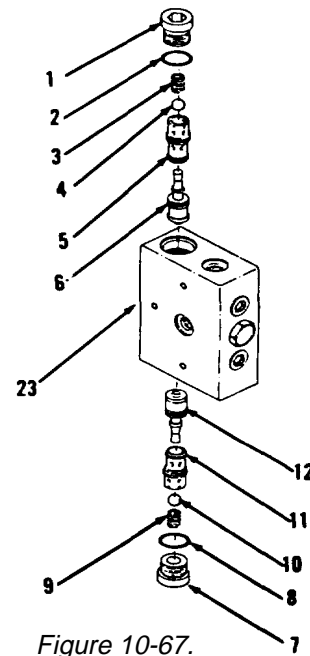
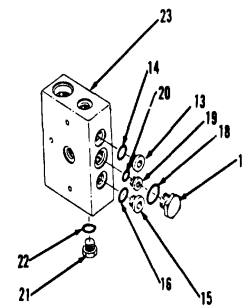

Figure 10-67.
Figure 10-68.
1. Loosen plug (1) carefully to relieve spring (3, Figure 10-67) tension. Remove plug (1), preformed packing (2), spring (3) and ball (4). Discard preformed packing (2).
2. Loosen plug (7) carefully to relieve spring (9) tension. Remove plug (7), preformed packing (8), spring (9) and ball (10). Discard preformed packing (8).
3. Remove plug (13) and preformed packing (14, Figure 10-68). Discard preformed packing (14).
4. Remove plug (15) and preformed packing (16). Discard preformed packing (16).
5. Remove plug (17) and preformed packing (18). Discard preformed packing (18).
6. Remove plug (21) and preformed packing (22). Discard preformed packing (22).
7. Remove plug (19) and preformed packing (20). Discard preformed packing (20).